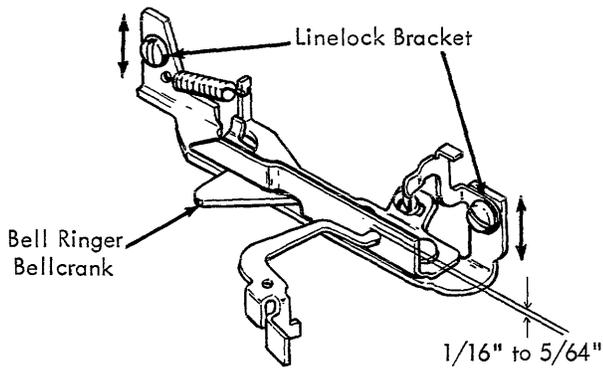

FIGURE 182A. Line Lock Bracket
6. Line Lock Bracket - Adjust the line lock bracket up or down so that the bellringer bellcrank will ride  $1/16''$  to  $5/64''$  from the bottom as the carrier moves into the line lock position. (Fig. 182A).